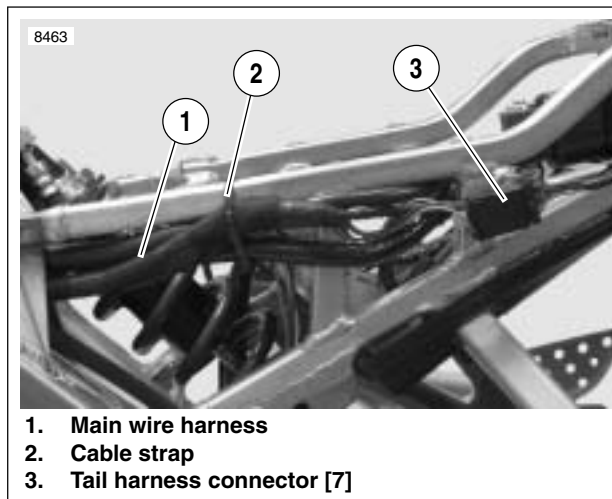
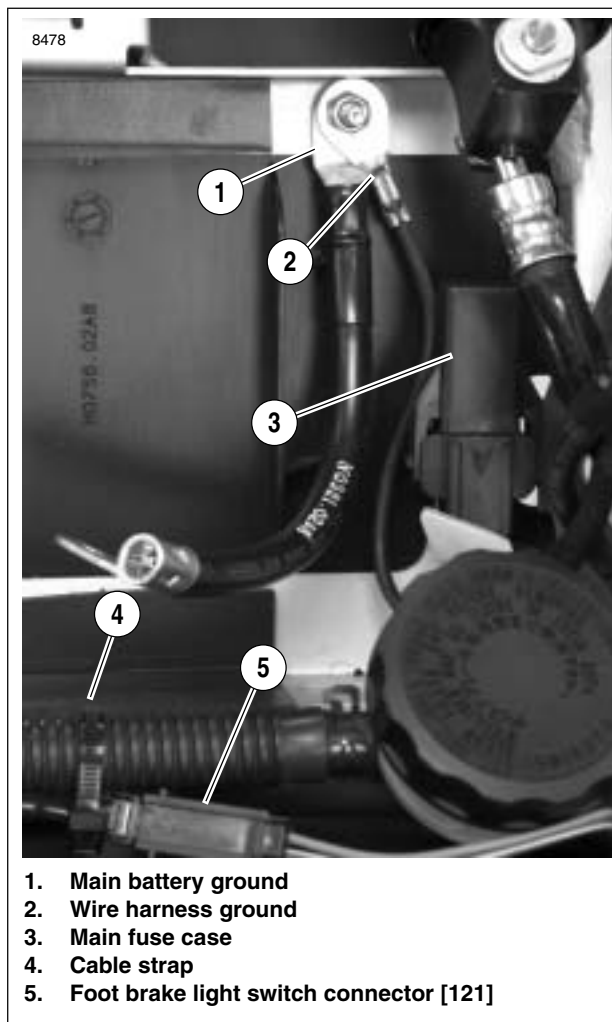

Figure 7-74. Tail Harness Connector
Figure 7-75. Battery Tray Wiring
7. See Figure 7-74. Disconnect tail harness connector [7] (3).
8. See Figure 7-75. Remove wire harness ground (2).
9. Remove main fuse case (3).
10. Disconnect foot brake light switch connector [121] (5).
23. See Figure 7-75. Connect foot brake light switch connector [121] (5). Install cable strap (4).
24. Install main fuse case (3).
25. Install main battery ground (1) and wire harness ground (2). Tighten fastener to 48-72 **in-lbs** (5.4-8.1 Nm).
26. See Figure 7-74. Connect tail harness connector (3). Attach cable strap (2).